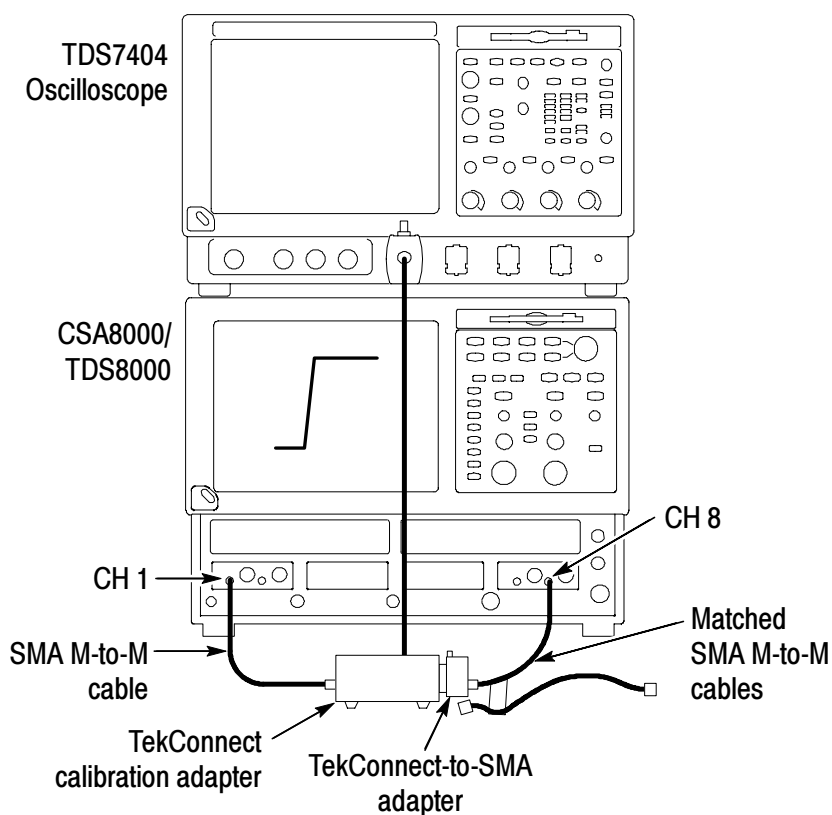

Figure 31: Test system rise time setup
2. Connect the test equipment as shown in Figure 31 on page 61. Connect the TekConnect-to-SMA adapter to Channel 8.
- 9.** Adjust the oscilloscope horizontal and vertical position controls to display a signal similar to that shown in Figure 31.